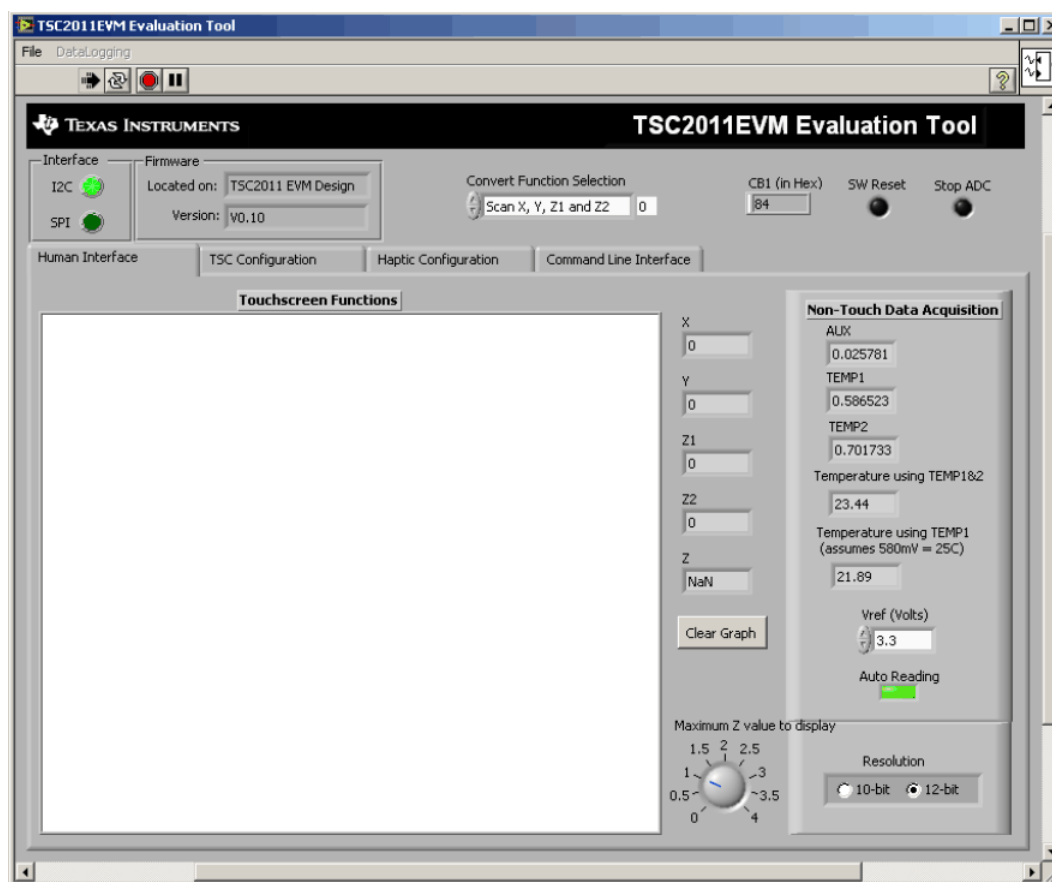

Figure 3. TSC2011EVM-PDK Software GUI: Startup Screen with Human Interface Tab
Check the **A0** box if the TSC2011EVM jumper JP1 is shunted on 1-2 (that is, set to the high position). By default, A0 should be unchecked with jumper JP1 shunted on 2-3 (low) (refer to Table 3). Click on the OK button to continue, and the software graphical user interface (GUI) appears, as shown in Figure 3.
When the TSC2011EVM-PDK software starts on your PC, the interface GUI is displayed as shown in Figure 3. On the top-left side of the GUI, a lit green LED indicates the digital serial interface type; this indicator should be I²C for the TSC2011EVM-PDK. The next box to the right shows the location and version of the firmware.
- Bits 3 through 6 (Converter Function Select) can be set at the Convert Function Selection option box, near the top center of the GUI; refer to Figure 3. For a list of all possible convert functions, refer to the TSC2011 data sheet.
Refer to Figure 3 for a view of the Human Interface tab; this screen is the default (startup) tab of the GUI, and shows both touch data (such as X-, Y-, and Z-coordinates of each touch on the screen) and non-touch data (for example, AUX and temperature).